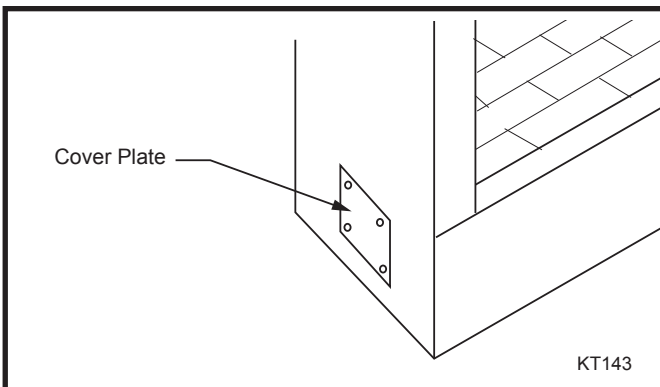

Fig. 8 Remove outside air cover plate and discard, retain screws.
1. Remove the screws retaining the outside air coverplate, if provided. (Located on the left side of front open units, on backside of multisided units.) Discard coverplate. (Fig. 8)